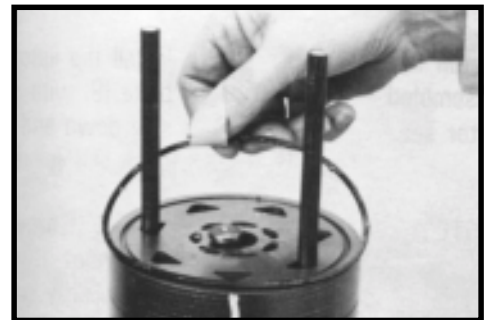

Figure 57
17. Apply grease to a **new** seal ring (4) and insert it in the seal ring groove exposed on the manifold. SEE FIGURE 57.